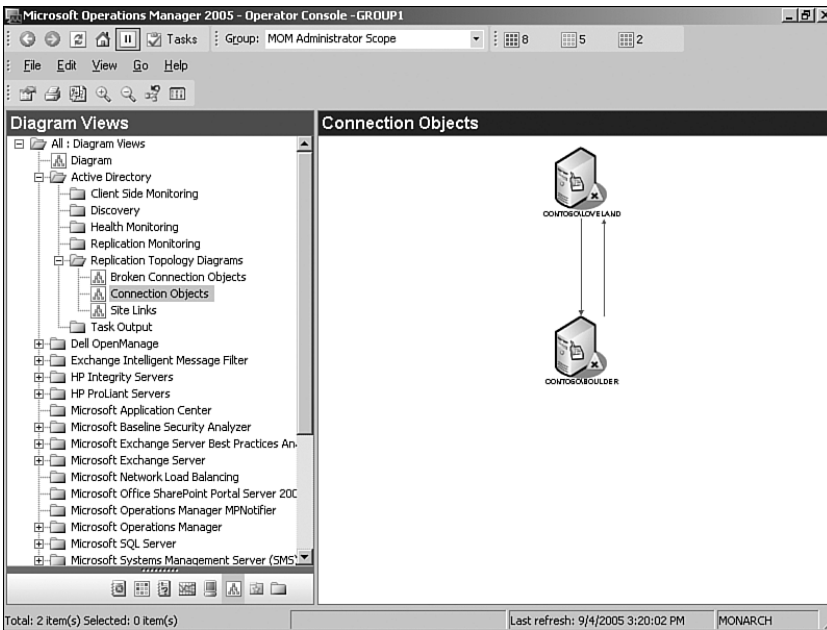

FIGURE 16.2 Connected Objects Active Directory topology view.
- ▶ Connection Objects (DC → DC), illustrated in Figure 16.2.